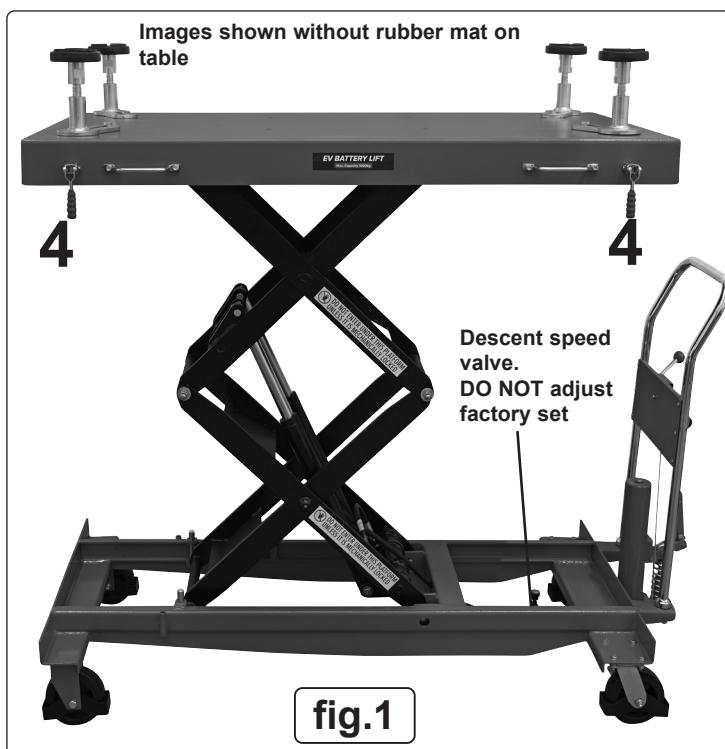

fig.1
- 7.3. Regularly grease the hinge points (fig.1).